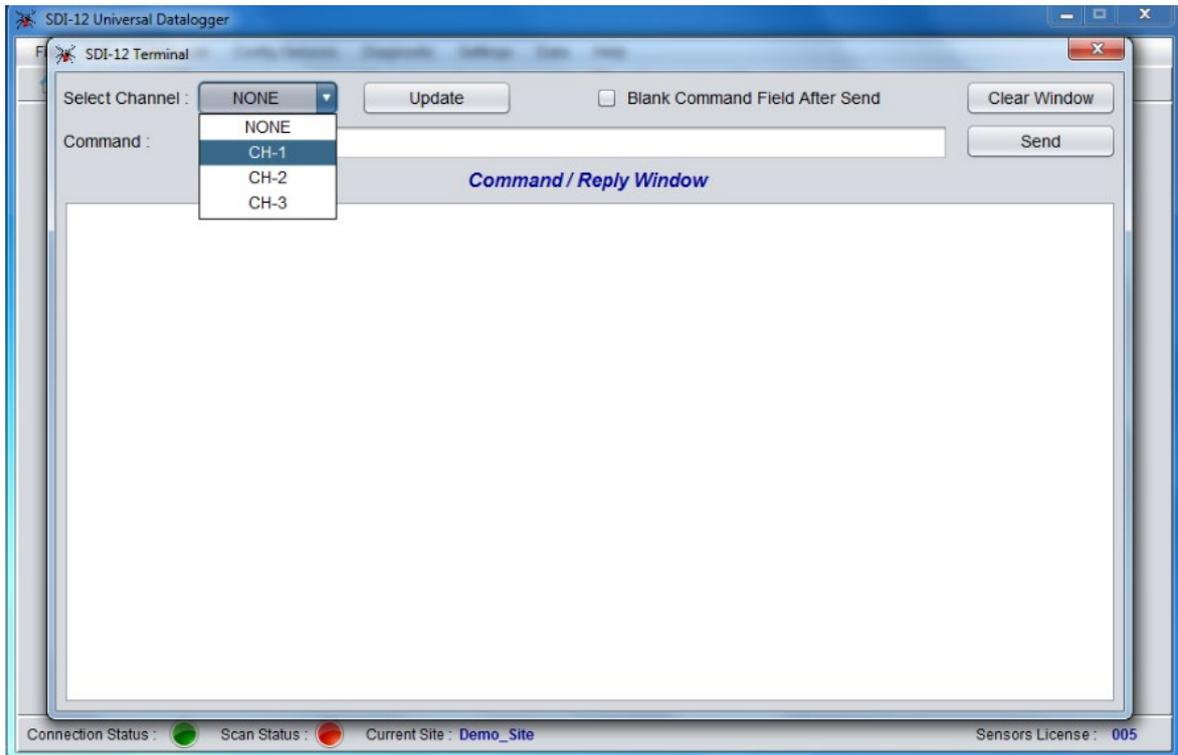

Figure 7-9 SDI-12 Terminal Window
- In "SDI-12 Terminal" window (figure 7-9), select appropriate Channel number from the drop down list and then click "Update".